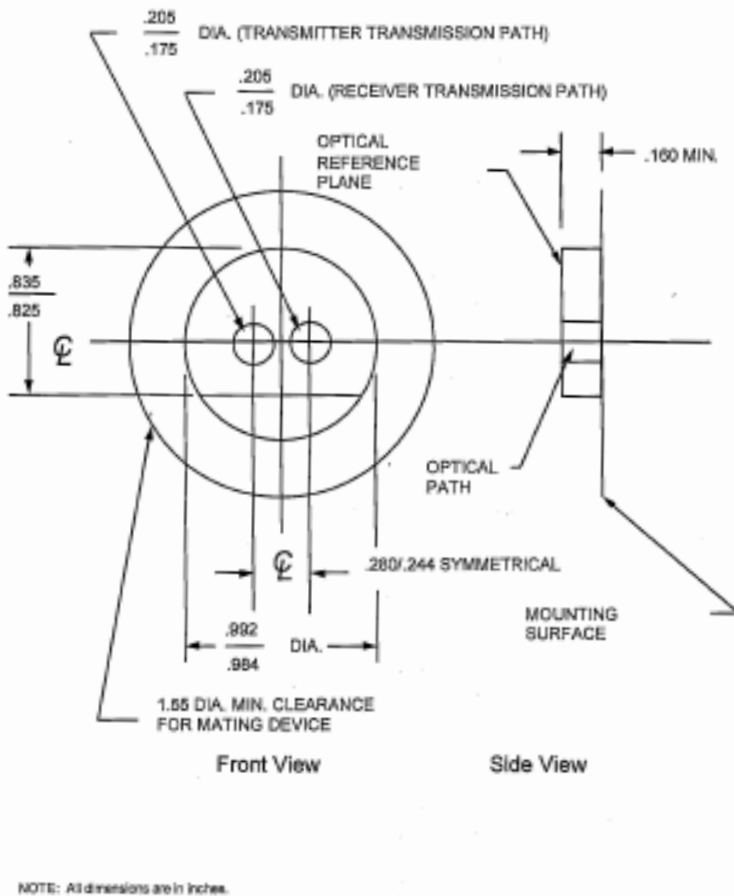

Figure 1 – External view of ANSI type 2 optical port
This port is made up of two Infrared (IR) light conduits that are referenced to a mechanical feature as defined in Figure 1, taken from ANSI Standard C12.10. The leftmost IR conduit is dedicated for transmitting and the other for receiving.